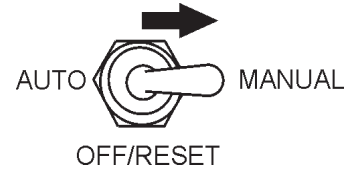

Figure 30. MPEC Control Switch (Manual Position)
1. Place the *MPEC Control Switch* in the **MANUAL** position to start the engine (Figure 30).